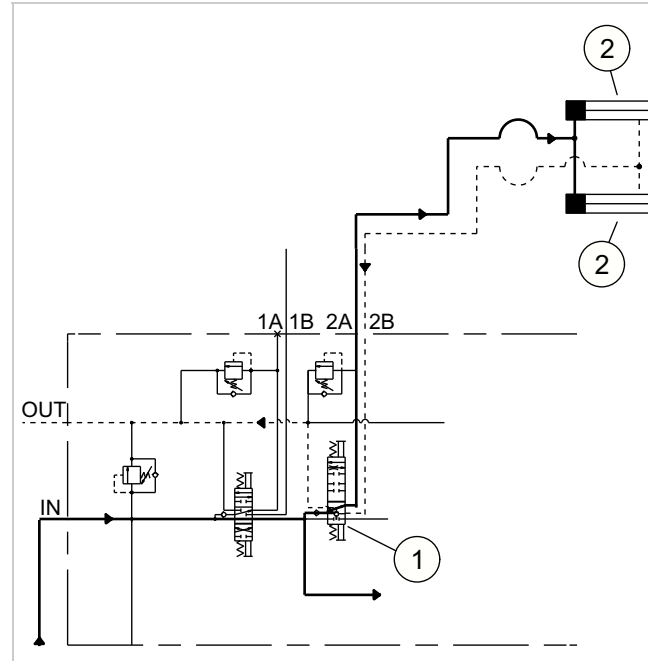

Fig. 16 (32068-01)
See Figure 16. When the tilt lever is pushed forward, it positions the tilt spool (1). This action allows the hydraulic oil to flow out of the 2A port of the valve assembly to the back of the tilt cylinders (2). The rods extend and push the mast away from the lift truck. The hydraulic oil in the front of the pistons is pushed out and flows in the 2B port of the control valve, through the tilt spool (1), and back to the reservoir. A pilot-operated tilt lock valve and control orifices within the tilt spool prevent tilt overrun to maintain control in the tilt forward function.